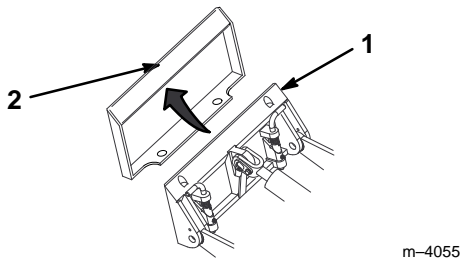

Figure 3
4. Position mount plate into the upper lip of the receiver plate on the forks (Fig. 3).